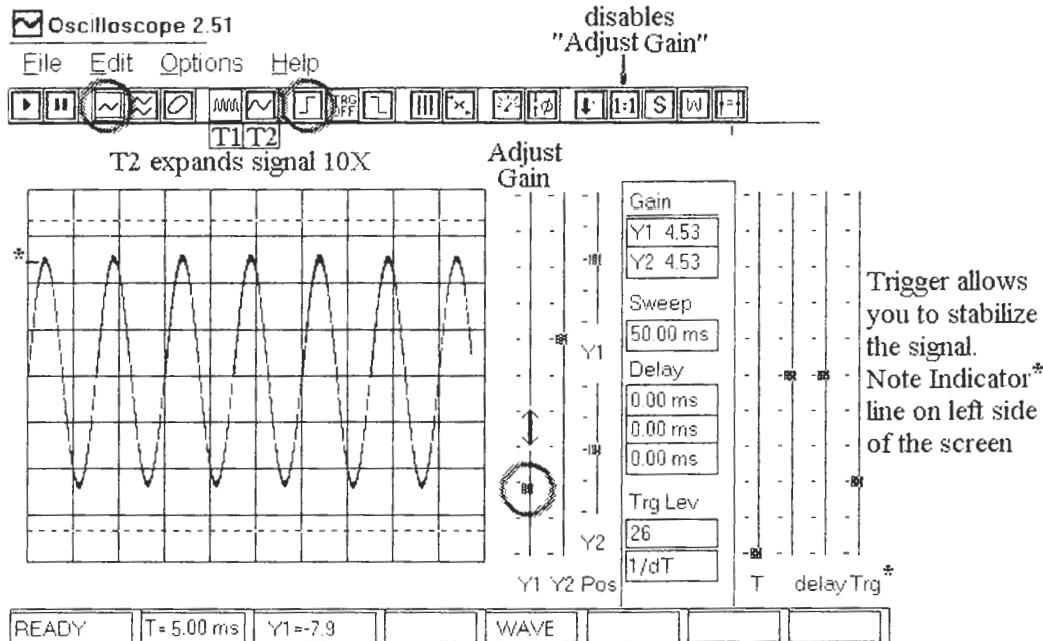

Figure L49-14
5. Figure L49-14 shows how to set up Winscope to see the tone signals on your computer.
- Be sure to adjust the settings by clicking those shown previously in Figure L49-14. Adjust the gain on Y1. When you move the “trigger” into place, the signal is stabilized.